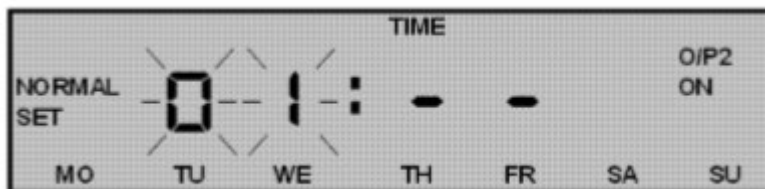

Figure 5 – Hours flashing (Loud)
2.3 The hours start to flash (Figure 5)